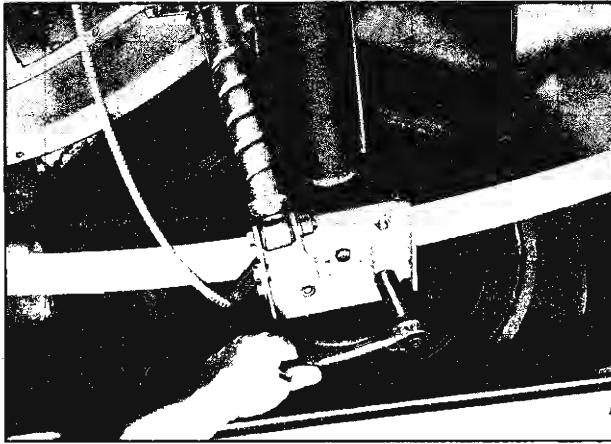

Fig. 10—Removing Lower Pad Bracket
2. Pull emergency brake cable out of lower spring pad mounting bracket clamp and disconnect cable above axle housing. Remove four nuts securing lower spring pad mounting bracket to axle spring seat (fig. 10). Drop lower bracket and remove rubber spring pad.